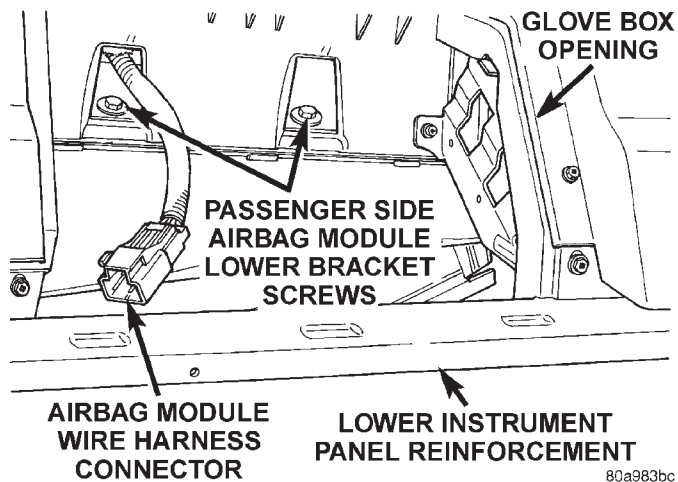

Fig. 33 Passenger Side Airbag Module Lower Bracket Screws
(1) Disconnect and isolate the battery negative cable.
(2) Remove the cluster bezel from the instrument panel. See Cluster Bezel in the Removal and Installation section of this group for the procedures.
(3) Remove the park brake release handle from the instrument panel. See Park Brake Release Handle in the Removal and Installation section of this group for the procedures.
(4) Remove the glove box from the instrument panel. See Glove Box in the Removal and Installation section of this group for the procedures.
(5) Remove the glove box lamp and switch from the instrument panel. See Glove Box Lamp and Switch in the Removal and Installation section of this group for the procedures.
(6) Reach through and above the instrument panel glove box opening to remove the two screws that secure the passenger side airbag module lower bracket to the instrument panel (Fig. 33).